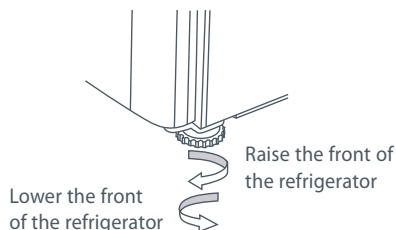

Fig.10 Refrigerator feet
- C Adjust the front feet down until the refrigerator is leaning backward with the front approximately 10 mm higher than the back. This will ensure a good door closing action. (Refer to Fig.10).